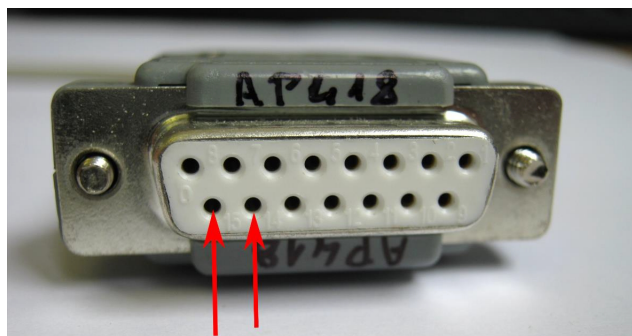

Figure 12: Measuring pins of CS4 temperature sensor
- Measure the resistivity on the connector of the thermometer with the multi-meter, as you can see in the Fig. 12.